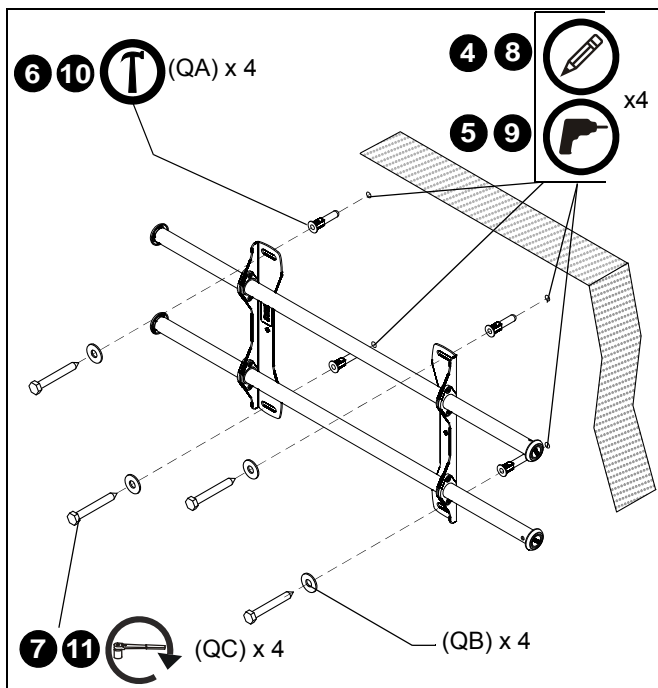

Figure 3
4. Using a level, mark the wall through both upper mounting slots. (See Figure 3)
6. Install an anchor (QA) into each pilot hole using a hammer.
7. Use two 5/16 x 2-1/2" lag bolts (QC) and two 5/16" flat washers (QB) to attach top of mount to anchors in wall.
8. Mark the attachment points for the lower mounting slots. (See Figure 3)
9. Drill one 5/16" (7.9mm) pilot hole at each marking for lower mounting holes. (See Figure 3)
10. Install an anchor (QA) into each pilot hole using a hammer.
11. Use two 5/16 x 2-1/2" lag bolts (QC) and two 5/16" flat washers (QB) to attach the mount to the wall through the lower mounting holes. (See Figure 3)